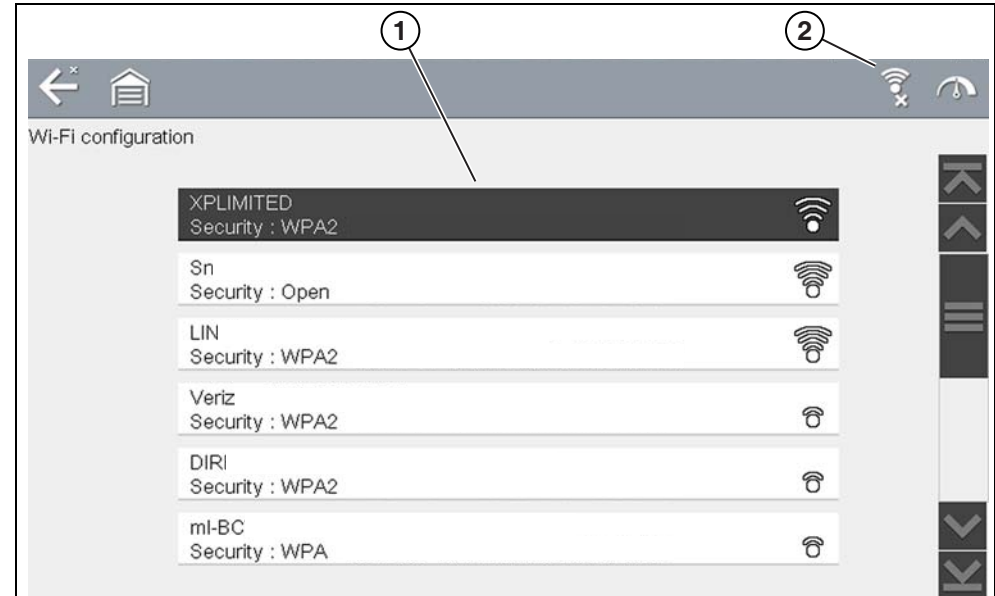

Figure 7-2 Wi-Fi Configuration Screen
4. Select your network. Use the scroll feature to show all active connections (Figure 7-2).